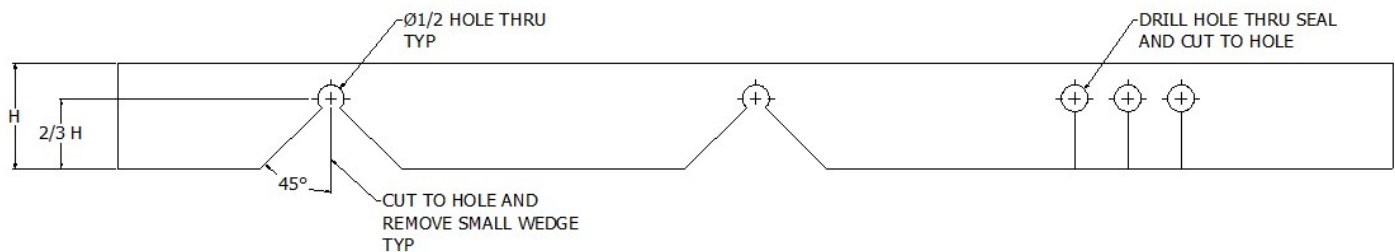

Figure 1 Up-Turn/Down-Turn Detail
1. Locate Ø1/2" hole and drill thru seal as show in Figure 1, using a standard twist drill.
2. Using a sharp long blade knife or hacksaw, cut the lower section of the seal up to the Ø1/2" hole as shown in Figure 1.
2. Construct two lines to form a right triangle below the Ø1/2" hole as shown in Figure 1.
3. Using a sharp long blade knife or hacksaw, cut along the 45° sloped lines and remove the wedge-shaped piece of WaboCompressionSeal® as shown in Figure 1.